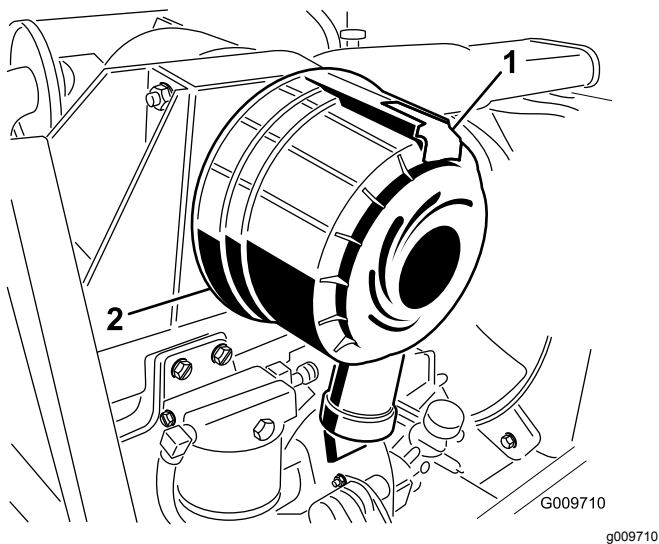

Figure 28
1. Pull the latch outward and rotate the air cleaner cover counterclockwise (Figure 28).